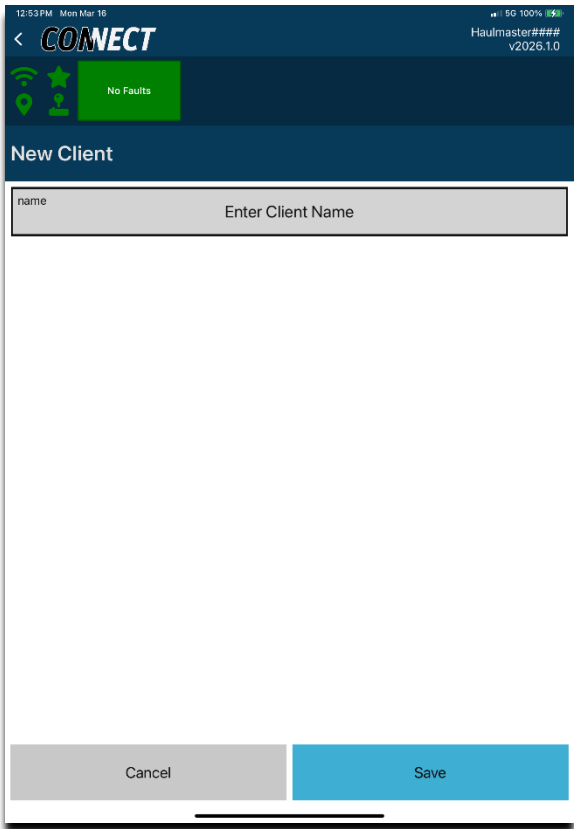

Figure 133 Enter Client Name
5. Press the blue **Save** button in Figure 133 when done.